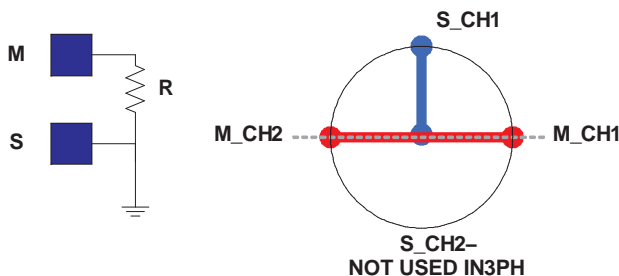

Figure 27. Phase System: 2 Channels of the Master and 1 Channel of the Slave
Configuring for other than 2, 4, 6, 8, 12 or 16 phases is simply a matter of not attaching one or more slave controllers. The phasing between master and populated slaves is as shown above. For example a 3-phase system could be configured with a master CH1 and master CH2 and 1 phase of a slave. Referring to Part (B) above, the 3 phases could be master CH1, master CH2 and slave CH1 or slave CH2 as shown in Figure 27.